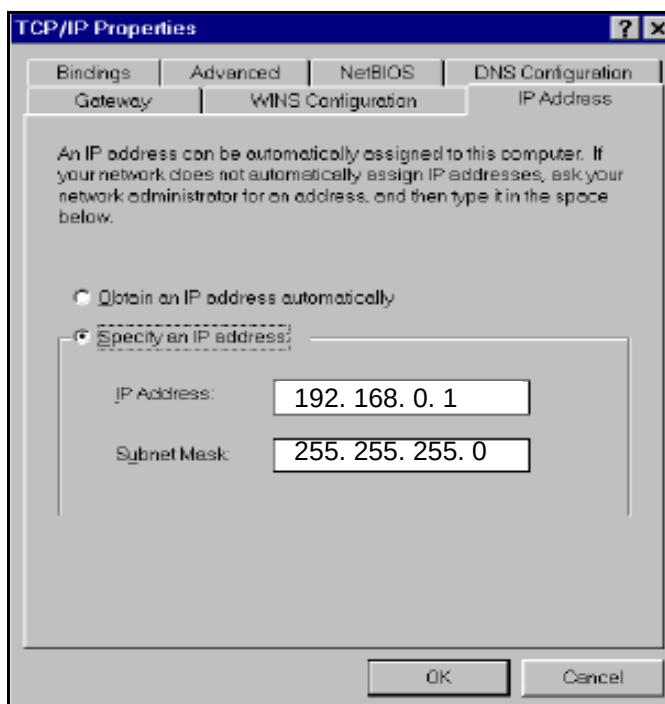

Figure 3-4 TCP/IP Window
5. Type new IP address 192.168.0.1 as shown in Figure 3-4, then click on OK button.